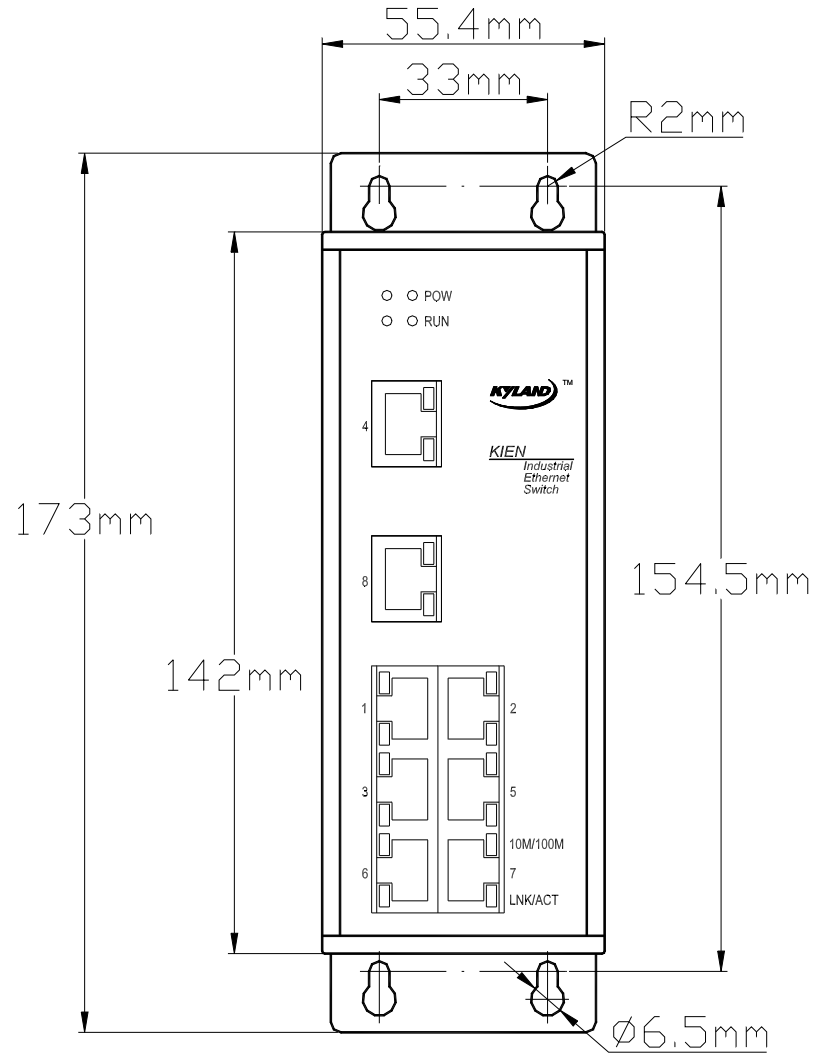

Figure 4-3 KIEN5000 wall-mounting dimensions
In some places, wall mounting may be more suitable than DIN rail mounting. KYLAND Telecom can provide the component (wall-mounting plate) for mounting KIEN5000 on wall. Wall-mounting dimensions are shown in Figure 4-3.
- 3 . Select mounting position: vertical wall or inner wall of cabinet. If you select to mount on vertical wall, you are recommended to use $\Phi 6$ plastic expansion bolts and $\Phi 3$ tapping screws for equipment mounting. According to the mounting dimensions marked in Figure 4-3, drill four $\Phi 6$ holes with an impact drill on the wall (the depth of the holes should allow fully inserting the plastic expansion bolt), fully insert the plastic expansion bolts in the holes on the wall, screw down the tapping screws into the plastic expansion bolts with a cross head screwdriver but do not screw down thoroughly, reserve a distance of around 5 mm; if you select
to mount on the inner wall of cabinet, you are recommended to prepare four M3 threaded holes on the inner wall of cabinet when making the cabinet according to the mounting dimensions marked in Figure 4-3, or drill four $\Phi 4$ holes with a hand-held electric drill on site, and screw down four M3×10 pan head screws with cross recess into the four holes with a cross head screwdriver (if the holes are not threaded inside, it is necessary to mount four M3 nuts on the back side). Do not screw down the screws thoroughly, reserve a distance of around 5 mm.